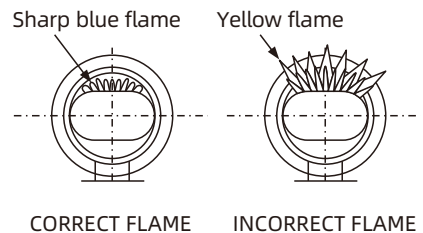

Figure 6
3. Periodically observe the main burner flame to assure it is burning with a hard blue flame with well defined burner ports. See Figure 6. If flame appears yellow or burner has a lazy flame, shut furnace down. It is possible that burner needs cleaning or replaced, If excessive rust and corrosion are present on burner surface, the burner must be thoroughly cleaned or replaced. The burner may be cleaned using a steel wire brush and blown clean using high compression air. Contact a qualified service person for assistance.